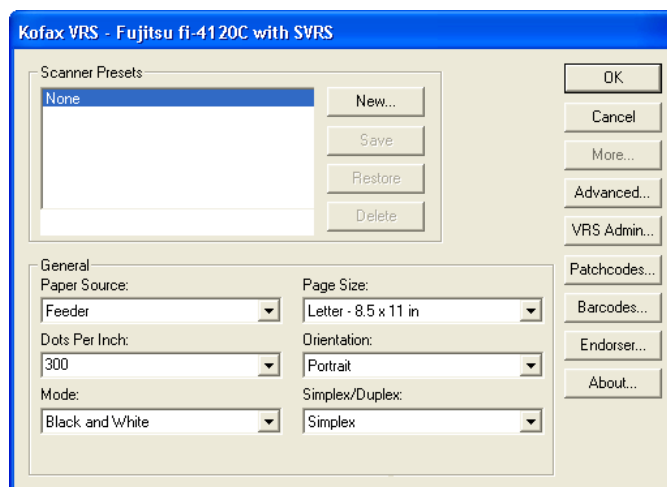

Figure 2-9. Kofax VRS ISIS Interface
- 3 The Kofax VRS ISIS interface will launch, as shown in Figure 2-9. Make your selections from within the General group, such as the Paper Source, DPI, Mode, Paper Size, etc.